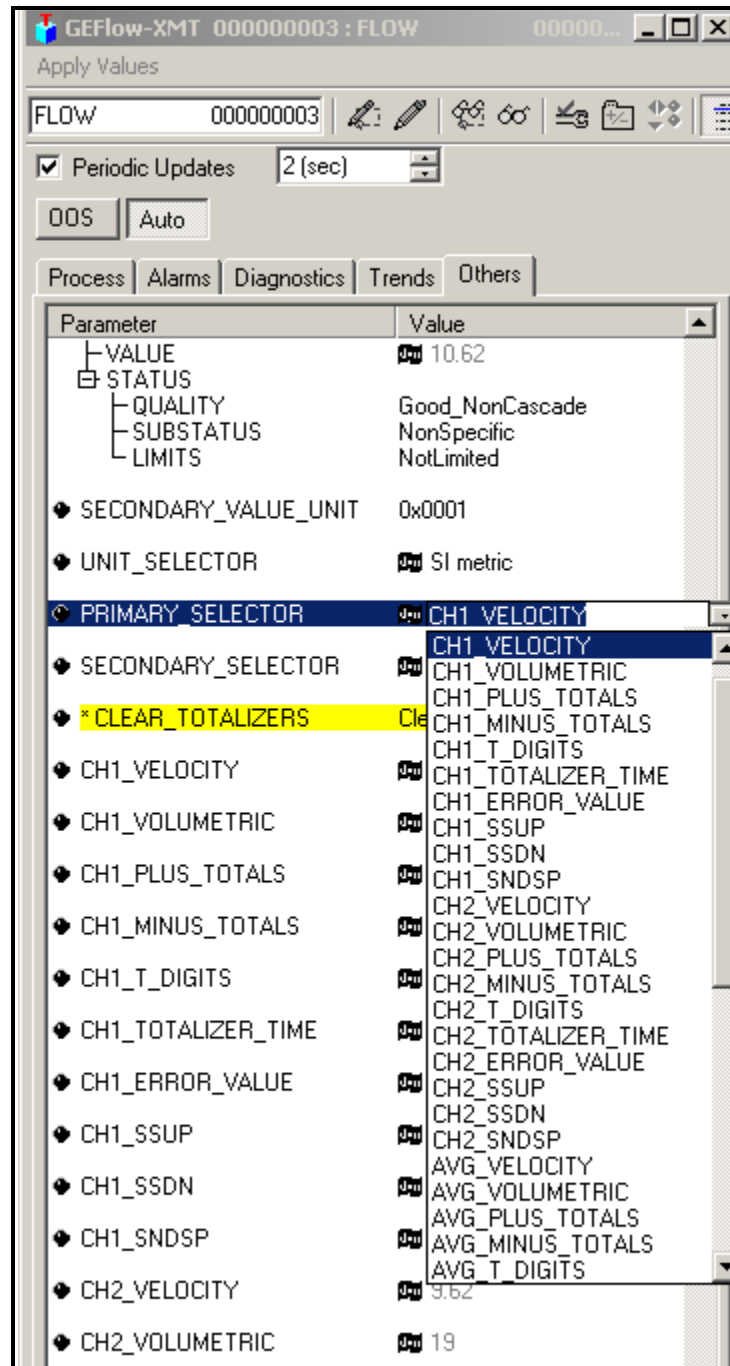

Figure 48: Primary Selector Drop Down List
2. Select the **Others** tab and open the drop down list for the PRIMARY_SELECTOR and SECONDARY_SELECTOR (refer to Figure 48 on page 63).
3. Choose the unit from the list (see Figure 48 on page 63).